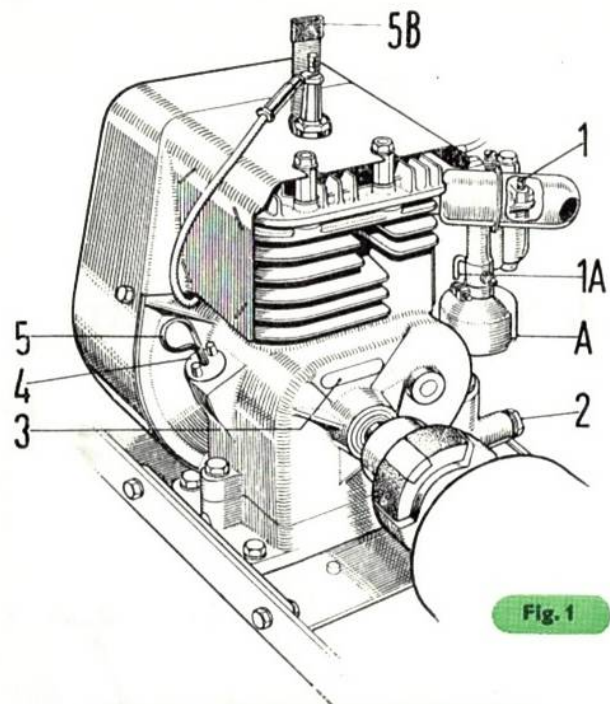

Fig. 1
2. Unscrew the sump filler plug (4, Fig. 1) from the front of the engine and fill sump with any one of the following recommended oils. Sump capacity $\frac{1}{2}$ pint. When filling, turn engine over slowly by hand to expel any air trapped in the sump. After filling sump replace plug, and dipstick if removed. **IMPORTANT** — Do not fill sump beyond the upper mark on the dipstick (5, Fig. 1). Check that oil is at this level before each mowing session and replenish when necessary. When filling the sump ensure that the
*Drain oil from sump after the first five hours' operation by removing the drain plug (2, Fig. 1). Tilt the machine over backwards to allow all the old oil to drain away. This is best done when the engine is warm. Replace drain plug tightly and fill sump with $\frac{1}{2}$ pint of fresh engine oil. Thereafter drain sump and refill with fresh engine oil after every **30 hours** of operation. Check sump oil level regularly and top up when necessary.*
NOTE. Your engine number is located at (3, Fig. 1).